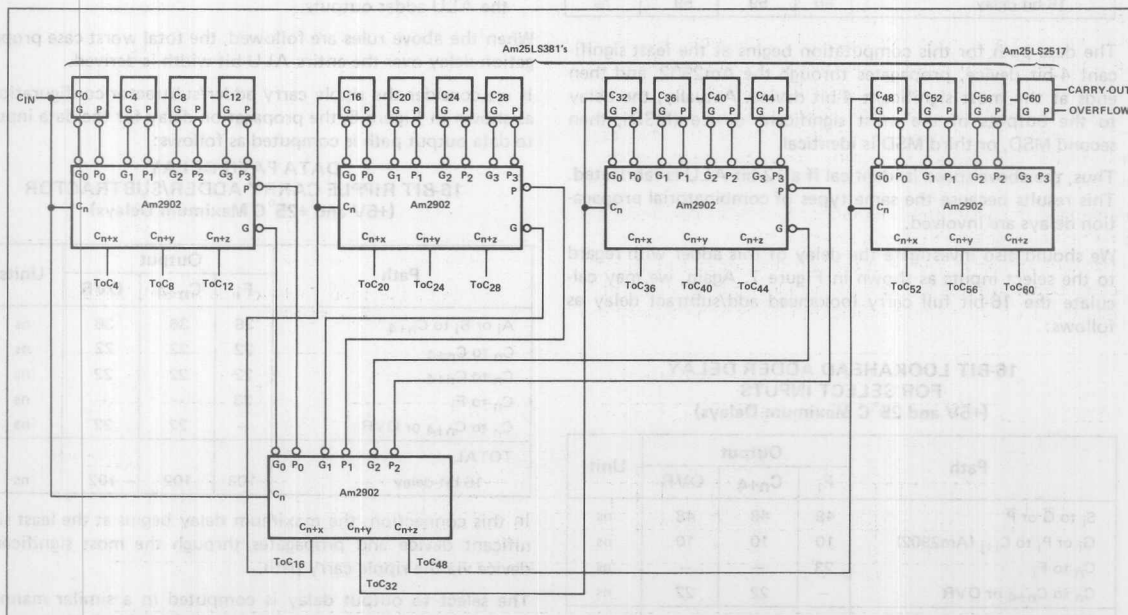

Figure 9. 64-Bit ALU with Full Carry Lookahead Using 5 Am2902's, 15 Am25LS381's and 1 Am25LS2517.
- Full lookahead carry across all levels and all block sizes can be used. This is the highest speed arithmetic logic unit connection scheme. For word sizes up to 64 bits, it is referred to as three-level lookahead carry addition. Such a 64-bit ALU requires the use of five Am2902 carry lookahead generator units in addition to the 15 Am25LS381 devices and one Am25LS2517 as shown in Figure 9.
Let us examine the speed of a 64-bit arithmetic logic unit fabricated as shown in Figure 9. The worst case path for this design is as follows: